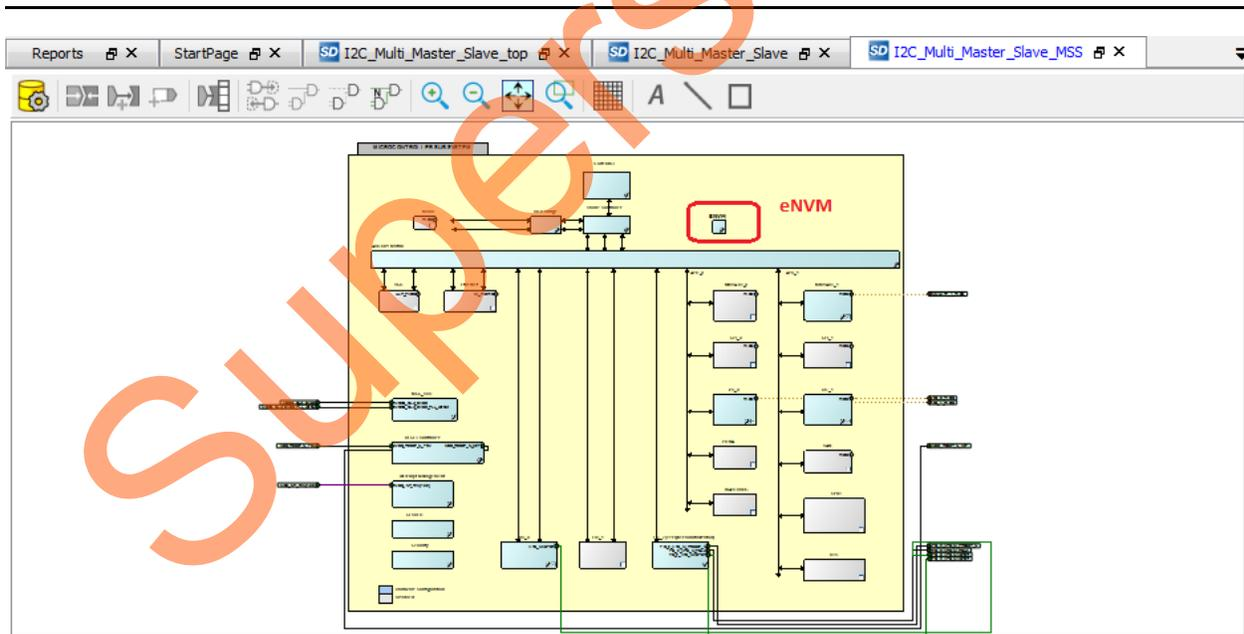

Figure 27 • MSS Component
2. Double click **I2C_Multi_Master_Slave_MSS_0** instance. **I2C_Multi_Master_Slave_MSS** is opened as shown in Figure 27.